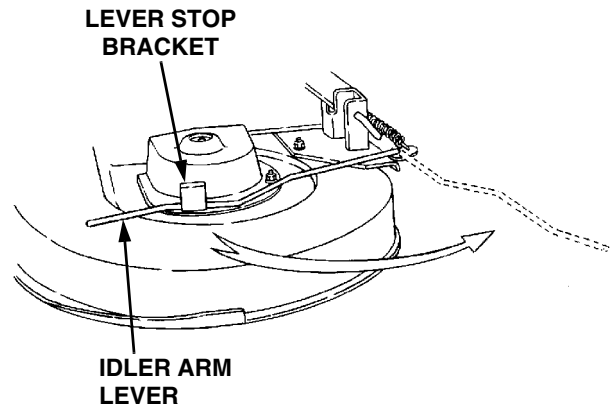

Figure 52
9. Disengage the deck idler arm lever from its stop bracket and release the spring tension by rotating the lever out and rearward (See Figure 52).